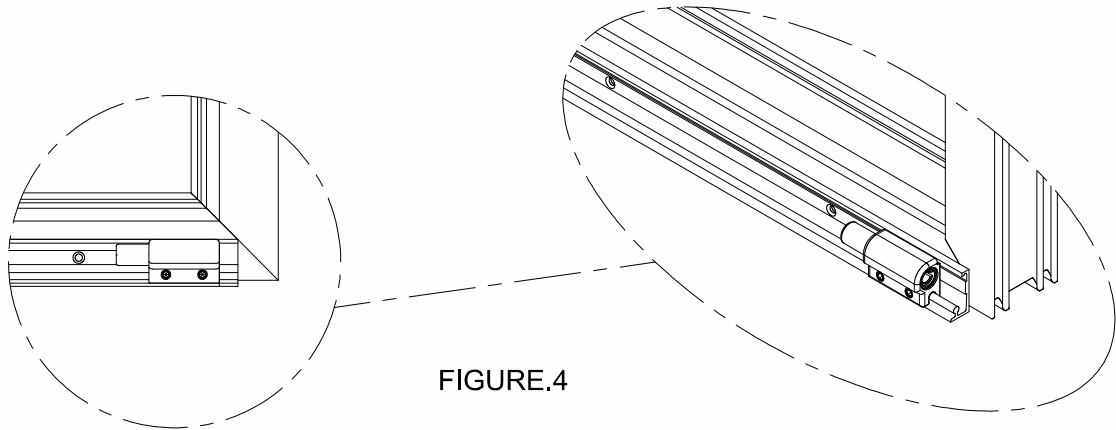

FIGURE.4
- a- Conduct adjustment of bottom buffer (left / right) suitable to opening width of sash as you desire, then assemble by using 4 allen wrench as shown in Figure.4.